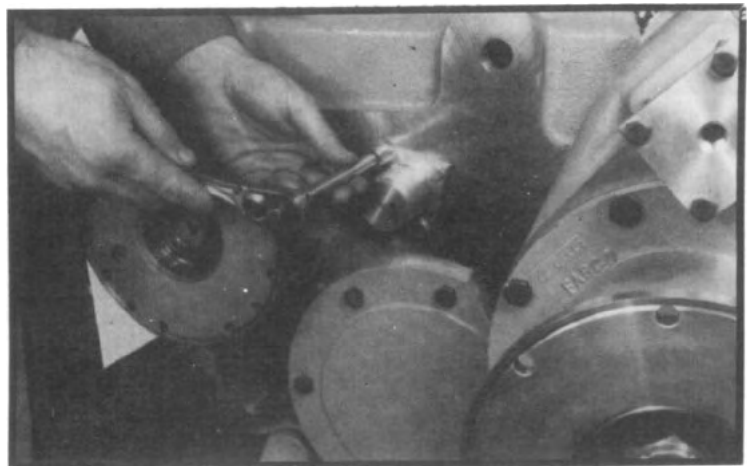

Fig. 190
1. Install shift shaft cap and gasket with four capscrews, tightening to correct torque. (See fig. 190.)